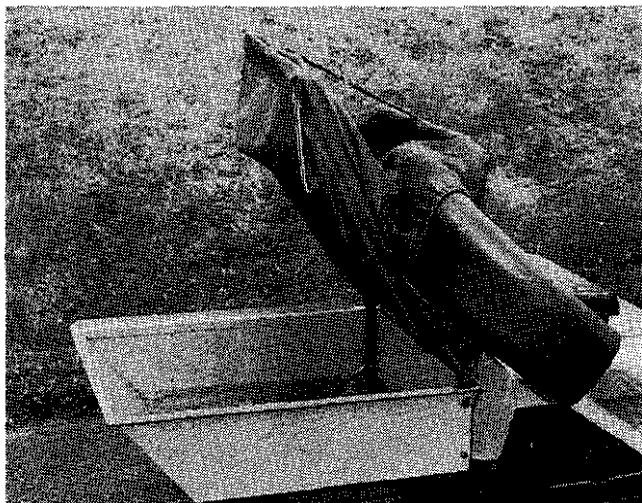

Figure 27.
2. Unhook the strap from the door lock and raise the cover assembly to the open position. Lock the cover in place by hooking the strap to the locking tab (figure 27).